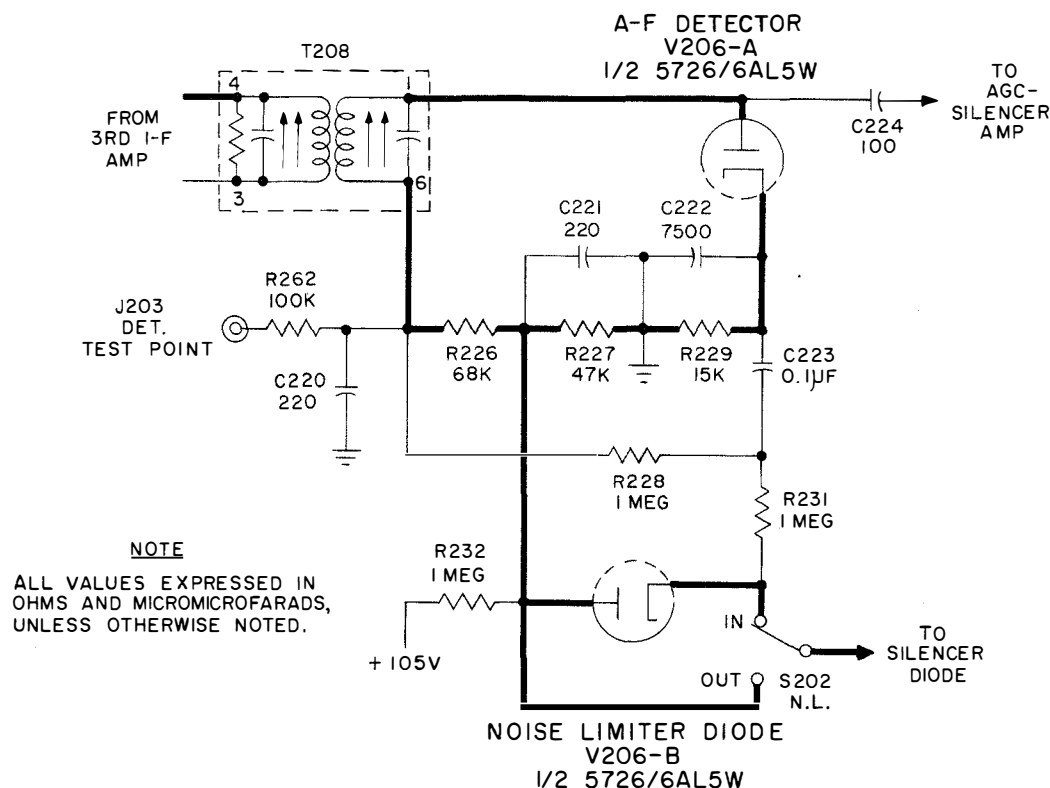

Figure 2-8. A-F Detector and Noise Limiter Circuits, Simplified Schematic Diagram
c. **AUDIO-FREQUENCY DETECTOR.**—The audio-frequency detector, V206-A, is one half of a type 5726/6AL5W twin diode; see figure 2-8. The i-f signal from terminal 1 of transformer T208 is applied to the diode plate. Resistors R226, R227 and R229, connected between the diode cathode and terminal 6 of T208, constitute the diode load. These resistors are bypassed for radio frequencies by capacitors C220, C221 and C222. The audio-frequency output, obtained from the junction of resistors R226 and R227, is applied through the noise-limiter diode and the silencer diode (either or both of which can be disabled—the noise limiter mechanically and the silencer electrically) to the grid of the first a-f amplifier.
d. **NOISE LIMITER.**—Diode V206-B, one half of a 5726/6AL5W twin diode, functions as a series-valve noise limiter and is connected between the a-f detector and the silencer diode; see figure 2-8. The N.L. (noise limiter) switch, S202, enables the operator to cut the noise limiter in or out of the receiver circuit, as determined by operating conditions. When S202 is in the OUT position, the audio signal obtained at the junction of resistors R226 and R227 is applied directly to the